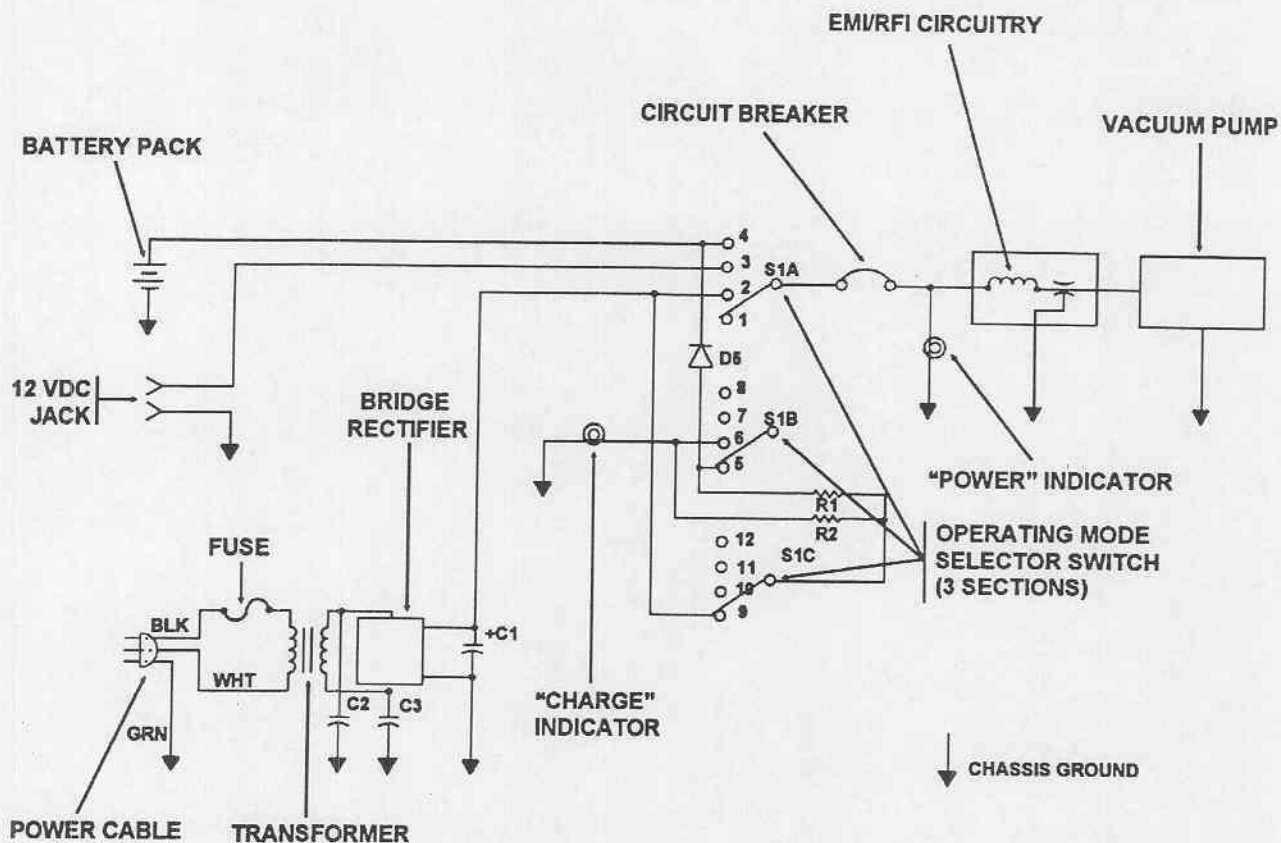

Figure 3-5. Schematic diagram.
- The schematic diagram for the suction apparatus is provided in figure 3-5 to assist you when troubleshooting. Isolate the problem to a functional segment of the circuitry.